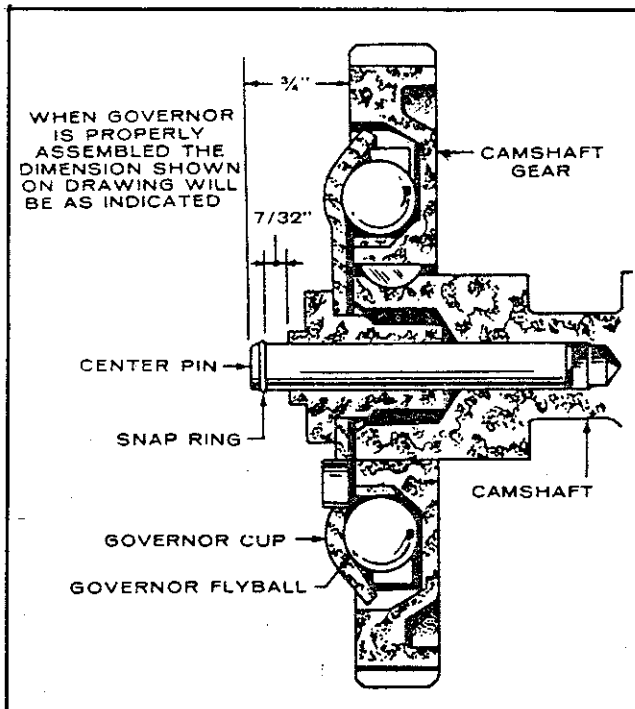

Figure 6-7. Governor Cup Installation
- (7) Place thrust washer (55) on camshaft (101) and key (56) in camshaft keyway. Make certain that gear (52) is started straight and press onto camshaft assembly (101). Install plate (54) and press spacer (53) on camshaft. Position ten governor fly balls (51) and slide governor cup (50) on camshaft center pin. Install retaining ring (49) as shown in figure 6-7.